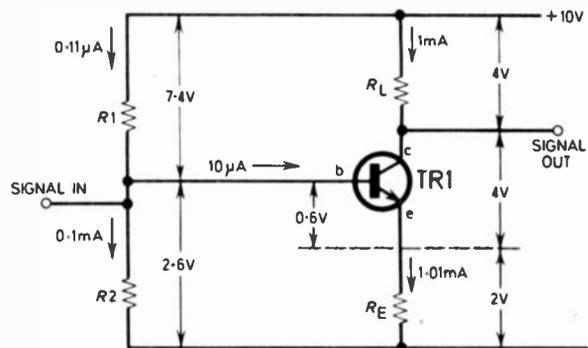

Fig. 20.1. Calculated current flow and voltage drops in the design of a simple single-stage amplifier.
Design of a simple class A common emitter stage amplifier using potential divide biasing is detailed below and in Fig. 20.1.
Step 1 First, all VOLTAGE DROPS should be calculated as shown in Fig. 20.1. Remember that about 0.6 volts must be allowed for across the base/emitter junction of TR1 (shown *npn*).